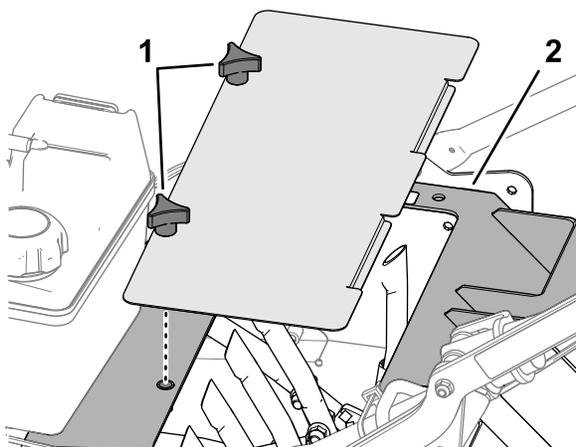

Figure 25
1. Remove the 2 knobs that secure the tine access cover to the tine housing (Figure 25).